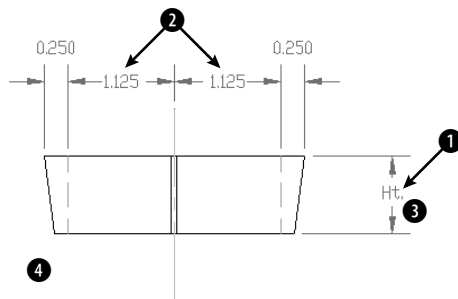

Figure 14-37: A dimensioned cross-section of a valve part.
2. Save the file as `ab14-09.dwg` in your AutoCAD Bible folder. This is a cross-section of a valve part, as shown in Figure 14-37. Open the Dimension toolbar if it isn't displayed.
3. To replace the dimension marked `Ht.`, choose `Modify` ⇨ `Object` ⇨ `Text` ⇨ `Edit`. At the `Select an annotation object or [Undo]:` prompt, choose the dimension at 1 in Figure 14-37. The Multiline Text Editor opens with the text displayed. Select the current text and type `<>`. Click `OK`. The command automatically creates the original measured dimension. Press `Enter` to end the command.
4. If you are using AutoCAD LT skip to Step 5. Select the two dimensions marked 2 in Figure 14-37. Also select the cyan center line and the two green hidden lines. Choose `Quick Dimension` from the Dimension toolbar. At the first prompt, right-click and choose `Edit`. At the `Indicate dimension point to remove, or [Add/eXit] <eXit>:` prompt, choose the two edit points (each marked with an X) on the cyan centerline. Right-click and choose `Exit`. At the `Specify dimension line position, or [Continuous/Staggered/Baseline/Ordinate/Radius/Diameter/ datumPoint/Edit/SeTtings] <Continuous>:` prompt, place the dimension line where it was previously. (You can use the outside arrows as a guide.)